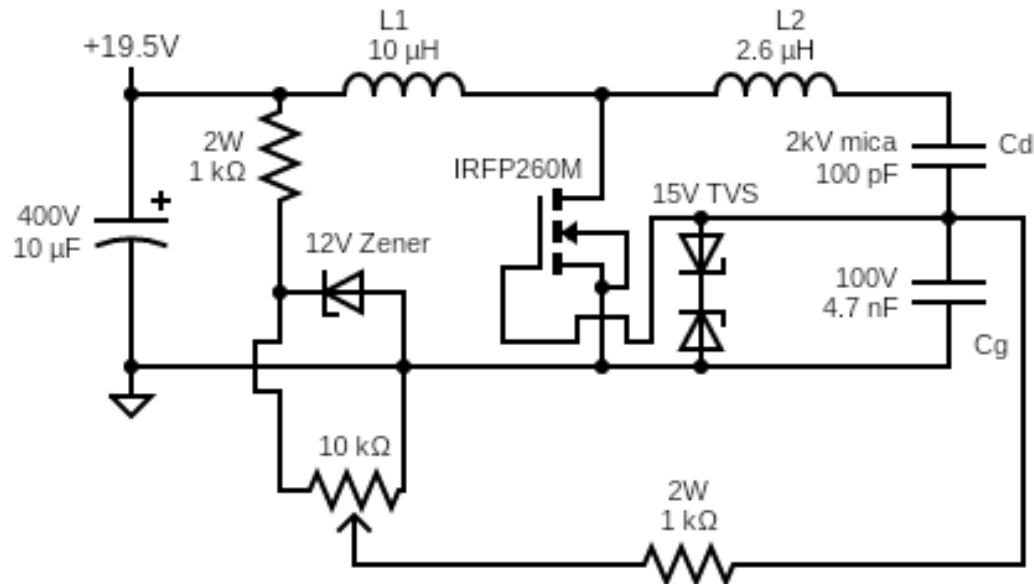

Figure 2: Class E oscillator
- A 50W, class E oscillator (15.5 MHz in my case) (Figure 2)